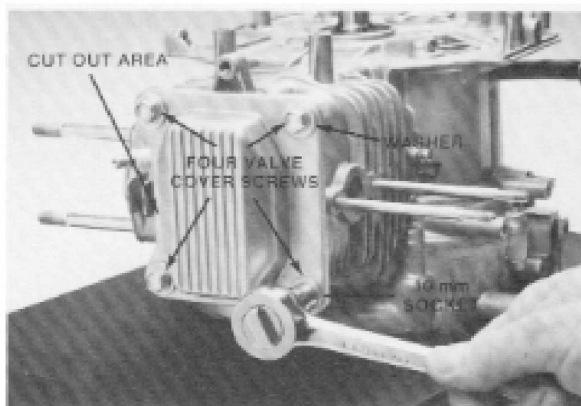

Figure 4-57
11. Mount a new valve cover gasket and install the valve cover. The "cut out" on the cover edge goes toward the spark plug. See Fig. 4-57. A flat washer should be placed on each screw. Tighten the screws to .4 - .7 kg-m (3.0 - 5.0 ft-lbs).